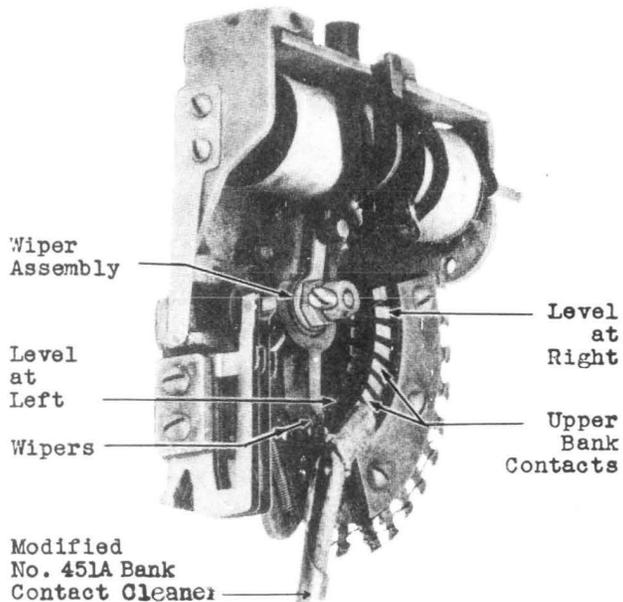

Fig. 3 - Method of Cleaning and Treating Bank Contacts
**5.02** To treat the upper bank contacts in the level at the right, hold the modified No. 451A bank contact cleaner so that the finger of the tool is above the handle and projects toward the right. Insert the tool from the side further from the magnets and place the finger of the tool as shown in Fig. 3 firmly (with a pressure of approximately one pound) against the tenth bank contact. Take three complete strokes across the width of the contact and proceed to the next contact. Treat all the upper bank contacts in the level at the right in the same manner progressing from the tenth to the first bank contact. Then while exercising a light pressure on the bank contact cleaner, draw it with a single stroke, across the row of contacts. This will tend to remove any lint that may have been deposited in the treating operation.